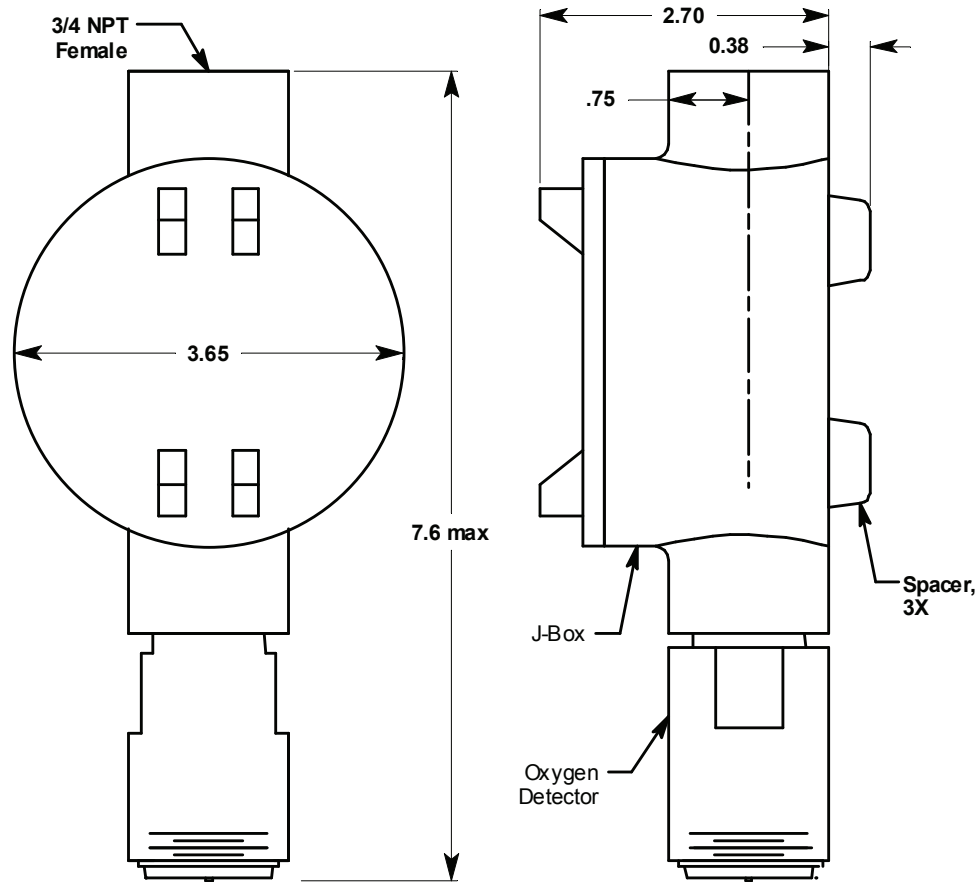

Figure 1: Mounting the Oxygen Detector
- At the mounting site you select, hang or mount the junction box with the detector facing down (see Figure 1).